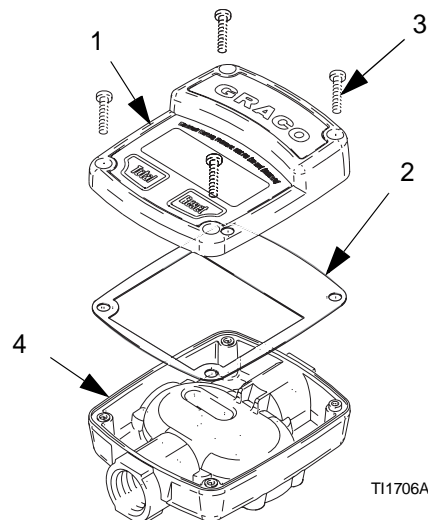

Fig. 1
2. Remove the four screws (3) holding the electronic control (1) and the metering unit (4) together as shown in Fig. 1.
4. Remove all gasket material from metering unit (4).
5. Assemble adhesive side of new gasket (2) to metering unit (4).
6. Replace battery. Install the electronic control (1) to the metering unit (4), aligning the longer screw boss on the meter housing with the counterbore in the plastic housing.